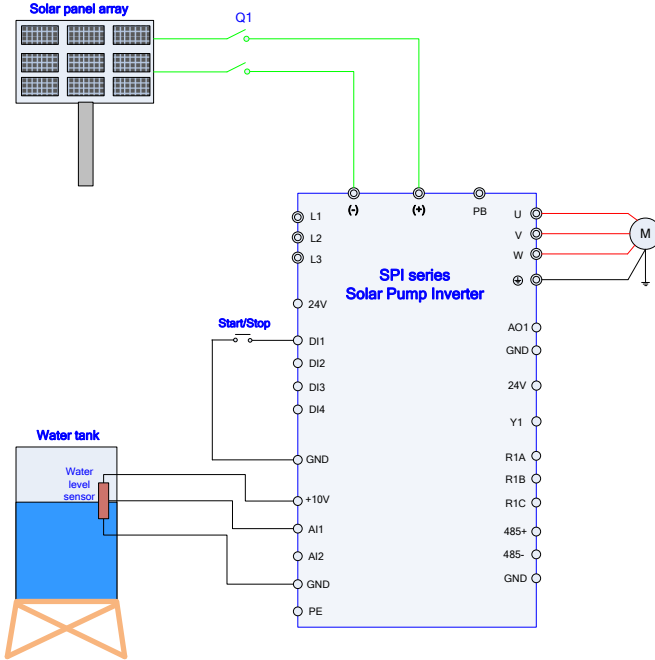

Figure 2-1 PV Cell Power Supply Wiring Diagram
1. Wiring according to Figure 2-1 system wiring diagram, and check to wiring to confirm correct, and then Q1 closed.